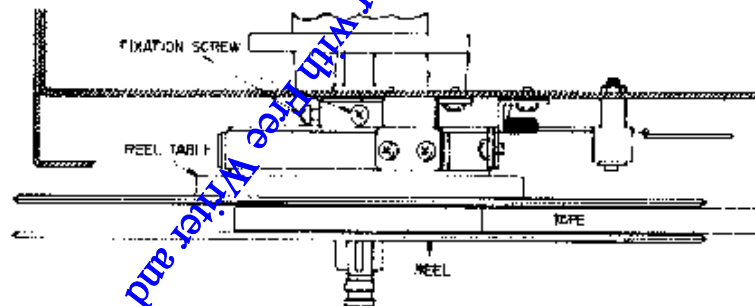

Fig. 11
19. REEL TABLE HEIGHT ADJUSTMENT (Refer to Fig. 11)